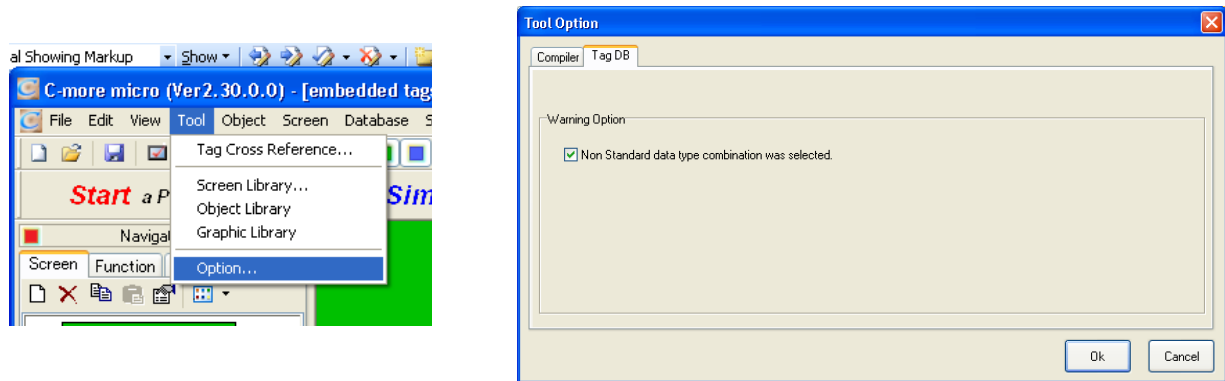
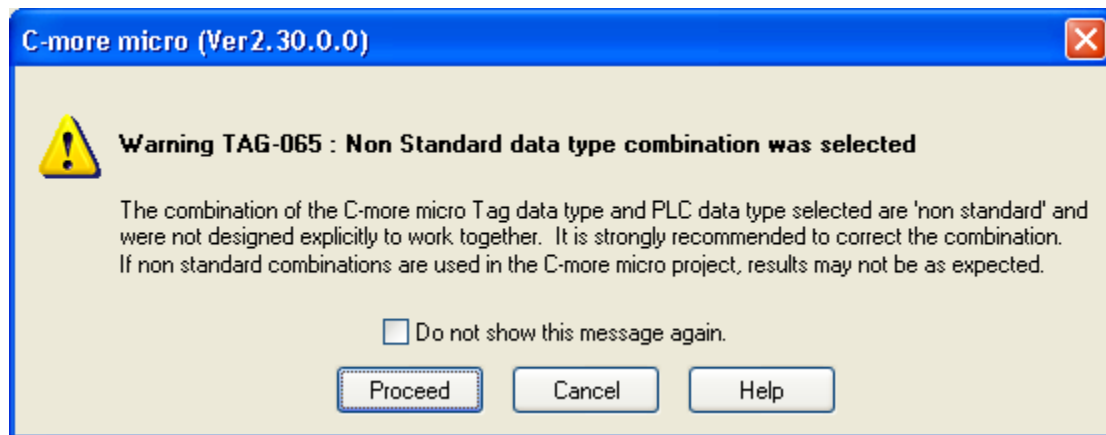

Figure 1
Figure 2
- Data type combinations identified with yellow “Warning” cells will be allowed, but if the warning option in Tools – Options... is selected (Figure 1) then the warning message (Figure 2) will ask the programmer to verify that the non-standard data type combination is intended before proceeding to add the tag. If the warning option in Tools – Options... is NOT selected then the tag will be added without the warning message.